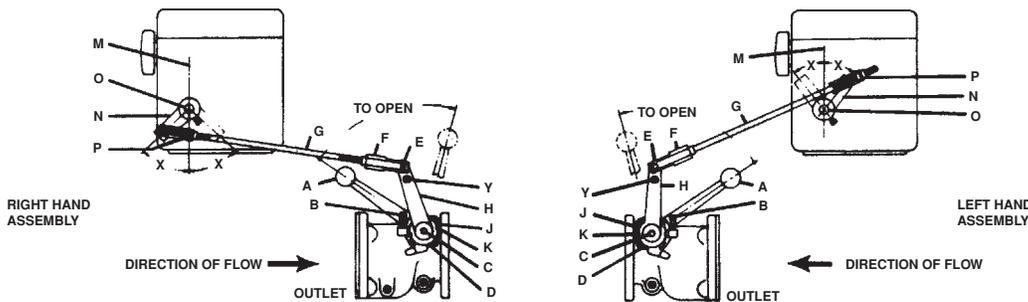

FIGURE 8
1. Depress the emergency stop button on the register and turn the shaft (O) clockwise.
2. Assemble register arm (N) on knurled knob in position as shown for specific assembly. (See Fig. 8). Arm should move an equal distance each side of vertical center line (M) (Angle $x = x$).
3. Assemble valve arm (H) as shown for specific assembly. On the right hand assembly there must be one notch between the cast mark (K) on the valve arm and the cast mark (J) on the stop plate (J above K). On the left hand assembly these cast marks must be in line.
4. Assemble one nut (P) on connecting rod (G) and assemble clevis to the other end of the connecting rod a distance of 1".
5. Insert end of connecting rod through register arm link and assemble clevis (F) to valve arm (H) using upper hole. (See Figure 8). Insert clevis pin (E).
6. Open valve all the way. The opening of the valve is stopped by the set screw (B) which should project approximately 1/8" below the lug holding it. Turn shaft (O) counterclockwise to latch up mechanism. With valve held open, tighten nut (P) against register arm link. Then assemble and tighten second nut at (P).